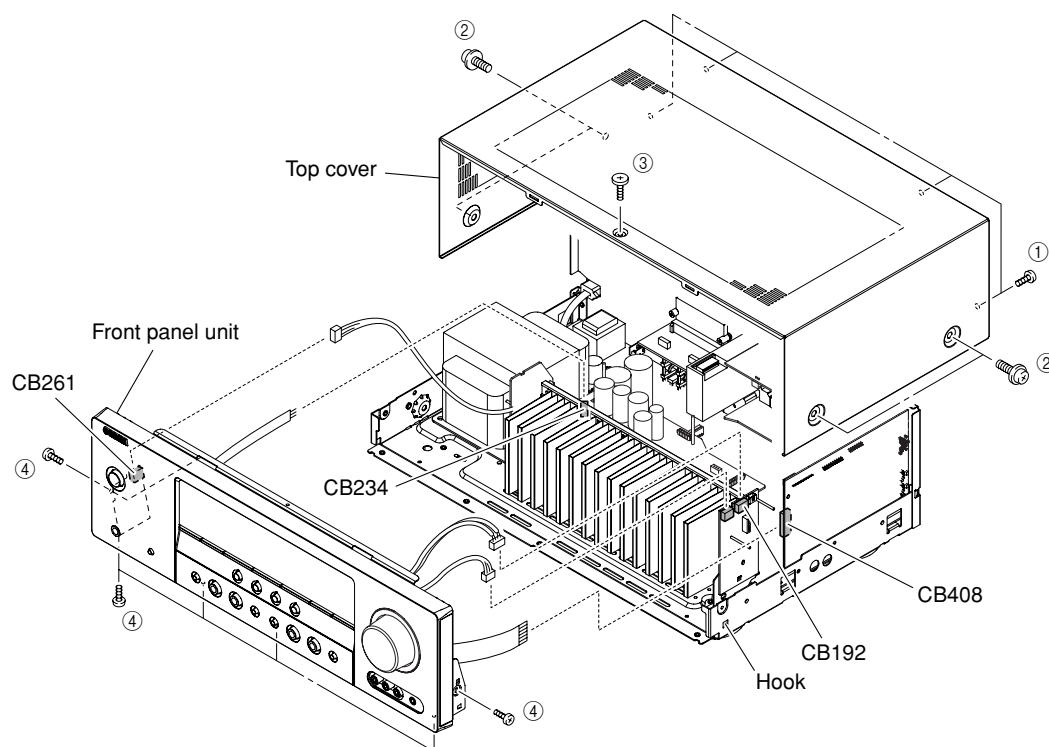

Fig. 1
- Remove 4 screws (①), 4 screws (②) and 1 screw (③). (Fig. 1)
- Slide the top cover rearward to remove it. (Fig. 1)
- Remove 6 screws (④). (Fig. 1)
- Remove CB192, CB234, CB261 and CB408. (Fig. 1)
- Release hook and then remove the front panel unit. (Fig. 1)